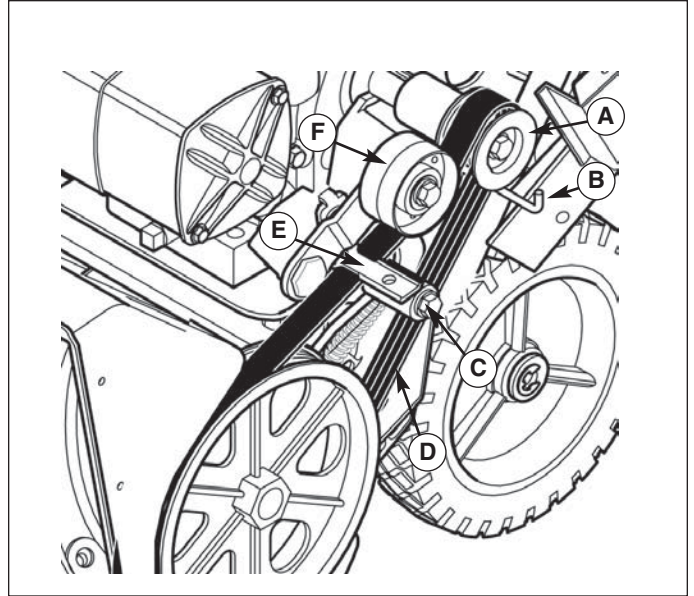
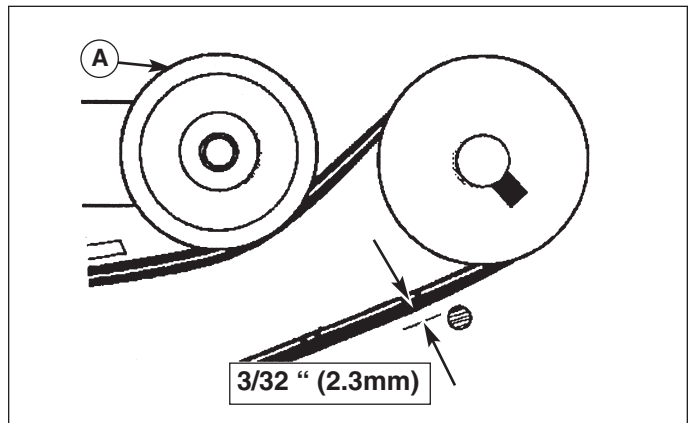

Figure 14. Drive Belt Installation
Figure 15. Belt Guide
2. Remove the drive belt (E, Figure 14) from the idler pulley (G).
3. Move the belt guide (B) away from the drive belt (E).
4. To reduce pressure on the drive belt (E), move the idler pulley (G) away from the belt. Remove the drive belt (E) from between the brake pad (F) and the brake roller (D).
5. Remove the old drive belt (E).
6. To install the new drive belt (E), reverse the above steps.
7. Make sure the drive belt (E) is seated properly on the pulleys.
8. Set the belt guide to 3/32" clearance as shown in Figure 15.